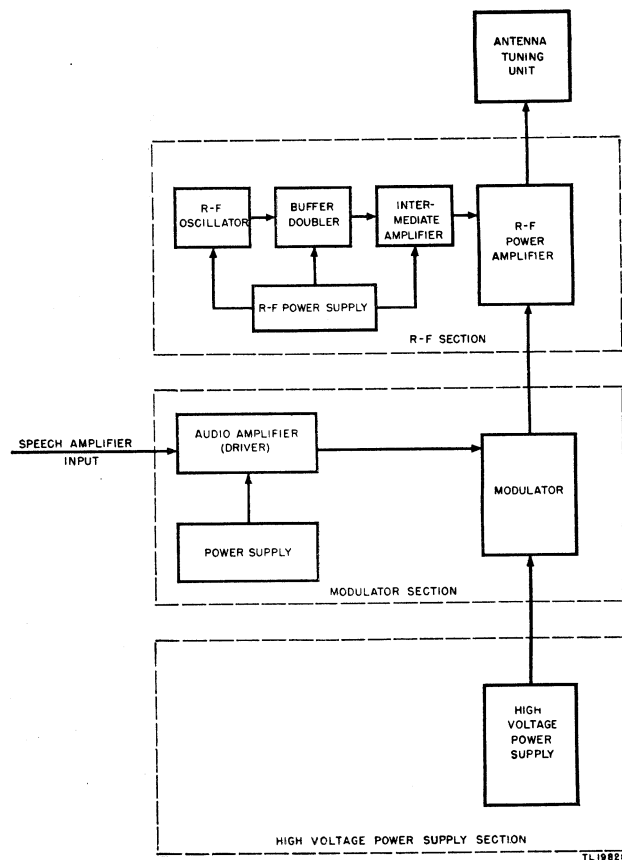

Figure 4. Radio Transmitter BC-610-(\*), block diagram.
a. UPPER CHASSIS. The upper chassis includes the radio-frequency components, filament supply for the radio-frequency tubes, plug-in tuning units, and all indicating instruments. (See figs. 4, 5, 9, and 10.)